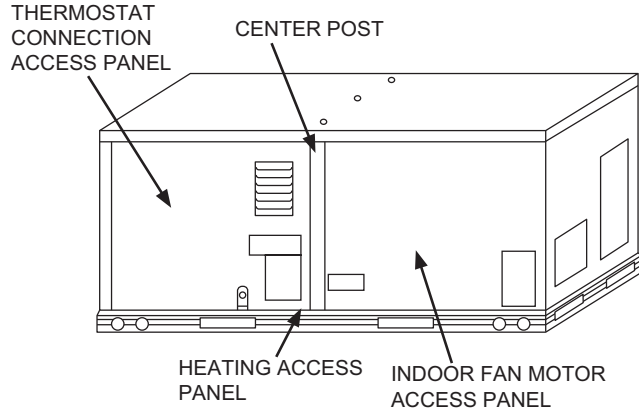

Fig. 11 — Typical Indoor Fan Motor Access Panel Locations
12. Remove the indoor fan motor access panel (see Fig. 11).